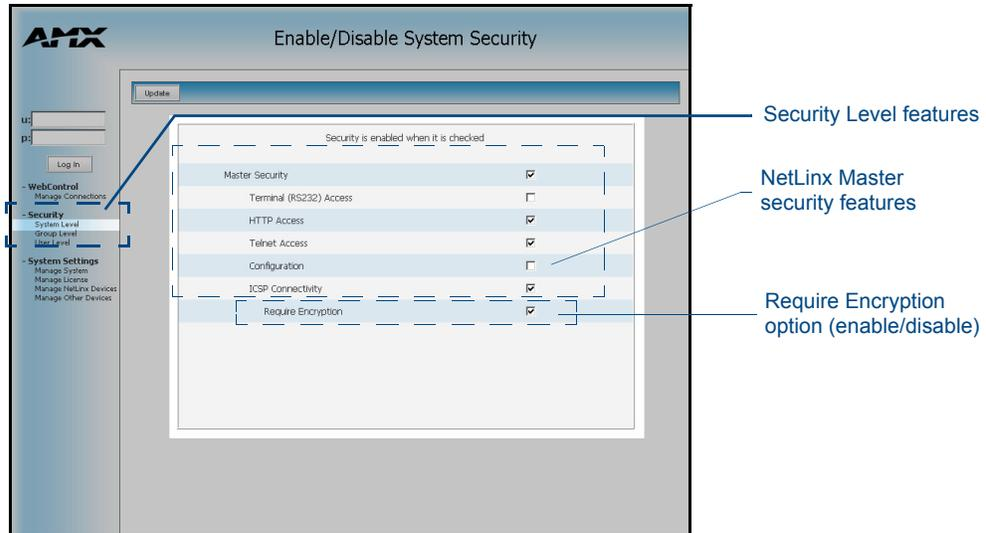

FIG. 38 System Level Security - Enable/Disable System Security page with selections
2. Click the **Security Level** link (*from within the Security section of the Navigation frame*) to open the System Security page. The **Master Security** checkbox selection (FIG. 38) toggles the appearance of the NetLinx Master security options.